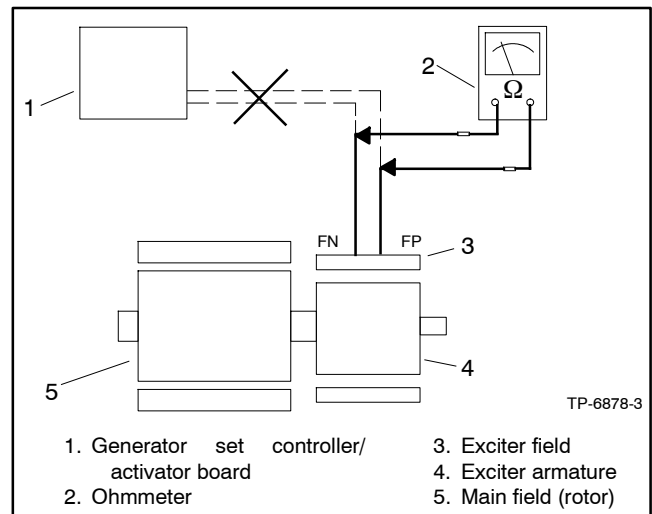

Figure 10-3 Exciter Field Resistance Test
4. Check the exciter field resistance by connecting an ohmmeter across exciter field FN and FP leads. See Figure 10-3. See Section 1, Specifications, for the resistance value of a cold exciter field.